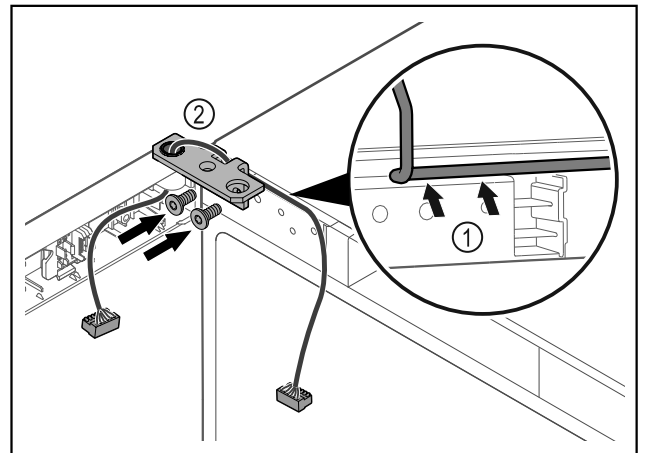

Fig. 36
- ▶ Feed the cable through the recess in the hinge and lay it carefully Fig. 36 (1).
- ▶ Screw on the hinge Fig. 36 (2).